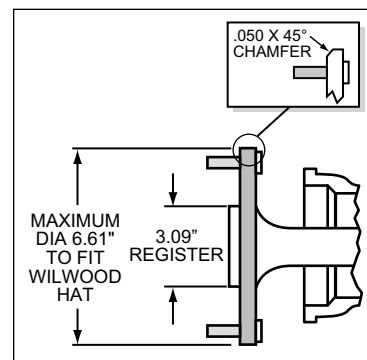

Figure 3. Axle Flange Maximum Dimension
- Axle center register diameter is 3.09", Figure 3.
- Maximum axle flange diameter must be no larger than 6.61" w/.050" x 45° chamfer, Figure 3.